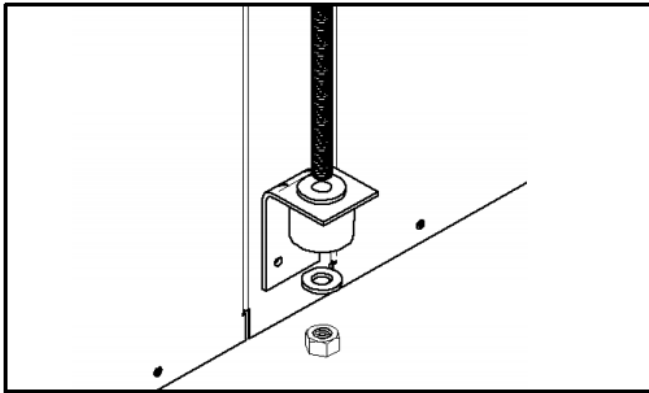

Fig. 7 — Hanging the Unit
3. Install rubber grommet on the bracket as shown in Fig. 7.
4. Hang the unit and assemble the field-provided threaded rod, nuts, and washers on the brackets as shown in Fig. 7.